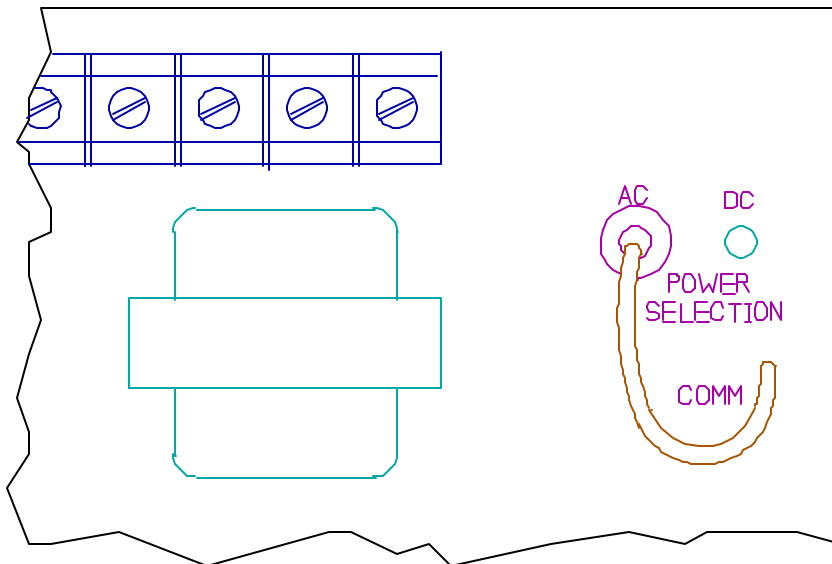

Figure 14. Power Selection Jumper
- (1) Select AC or DC voltage by positioning the power selection jumper on the printed circuit board to the appropriate terminal, see Figure 14. The unit is factory wired for AC operation.